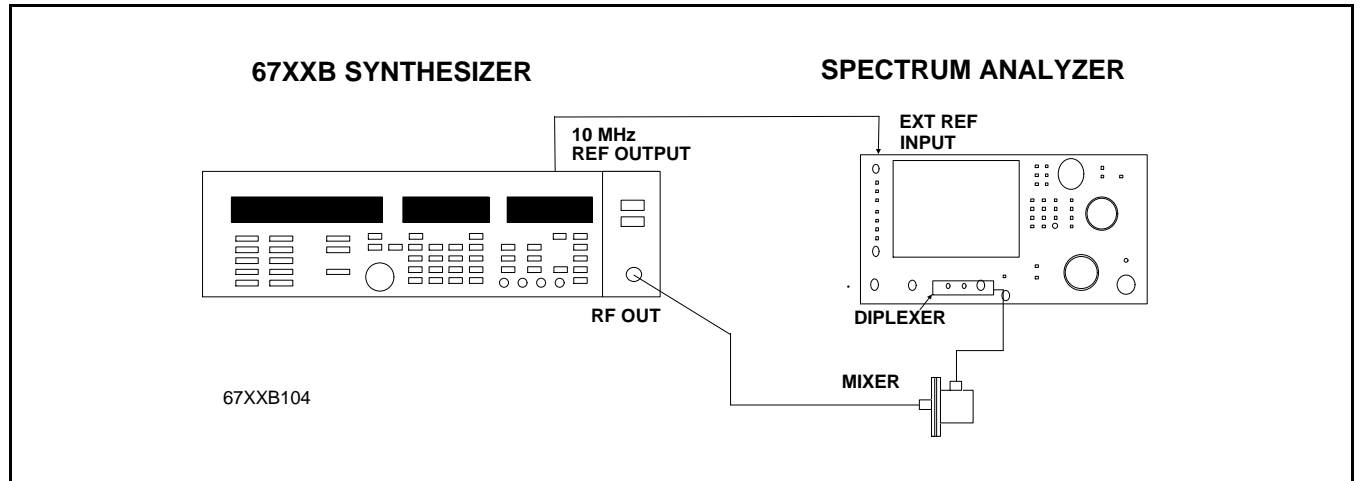

Figure 2-10. Equipment Setup for Harmonic Test: RF Output Signals From 26.5 to 40 GHz
1. Connect equipment as shown in Figure 2-10.